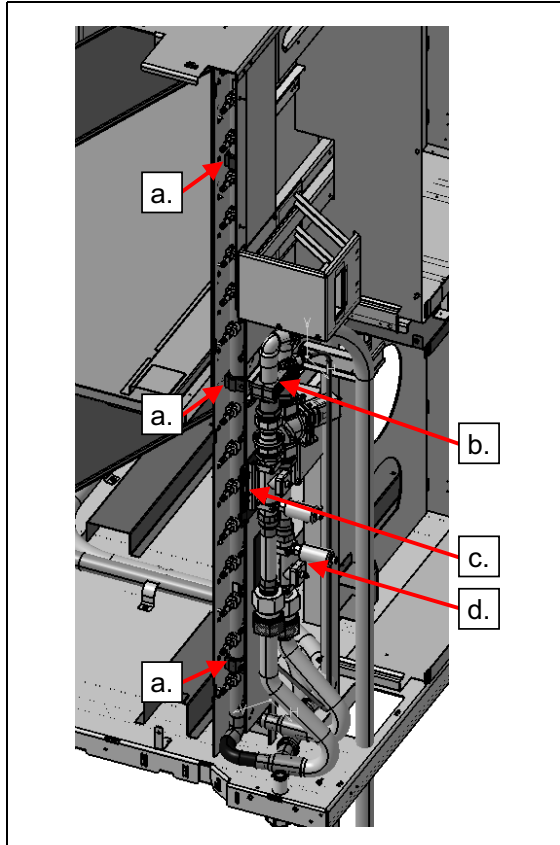

Figure 4-44 Coolant manifold replacement screw locations (rear)
Note: See Figure 4-44 on page 121 for the following steps.
28. At the rear of the machine, perform the following steps (see Figure 4-44 on page 121):